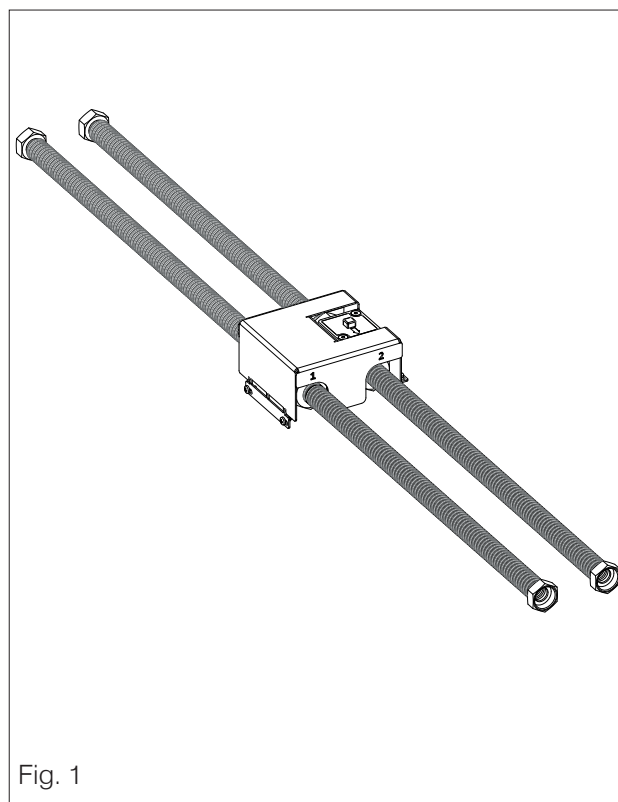

Fig. 1
- The assembled Anti-Condensation Kit (fig 1)